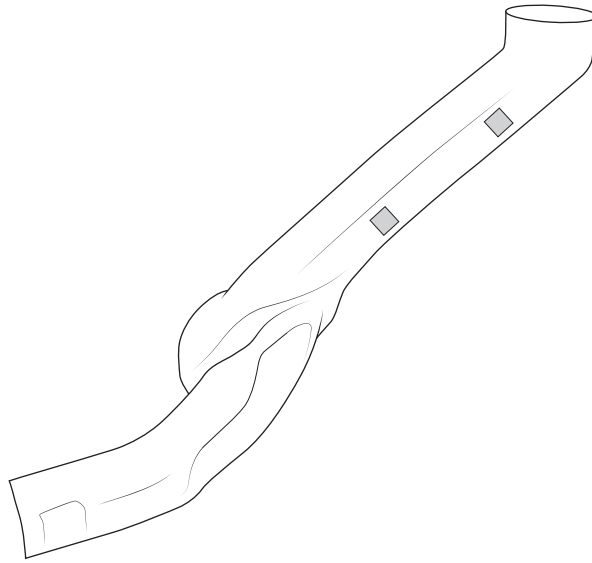

Figure 13
- Place adhesive foam squares onto the backside of the main body as shown (fig. 13).